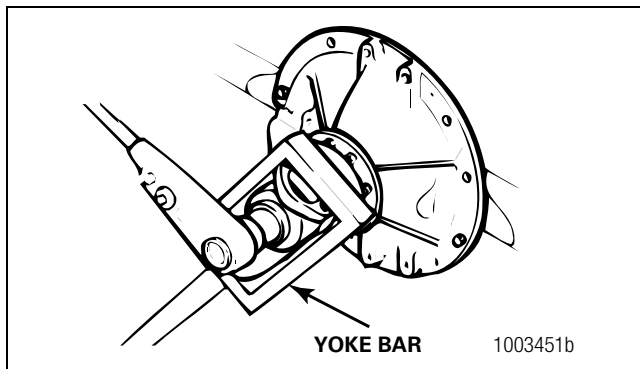

Figure 1
5. Attach a flange bar or place a yoke bar over the input or output yoke to hold the yoke or flange while you remove the nut. Always use a flange or yoke bar during removal and installation of the flange yoke nut to prevent damage to the gearing. Figure 1.